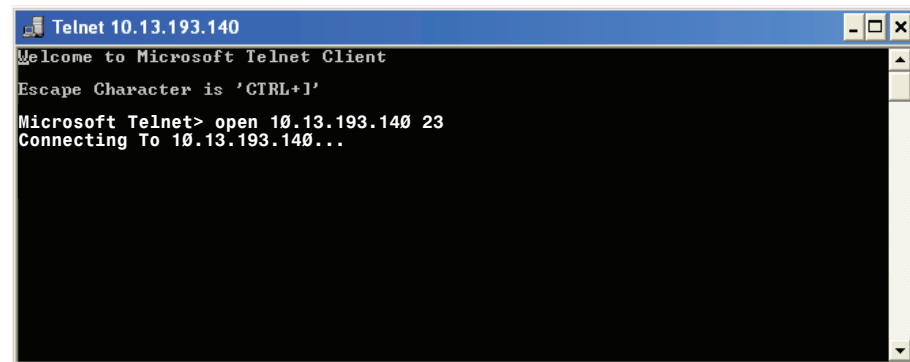

Figure 99. Telnet Open Command
3. The Telnet application appears. At the telnet prompt, type `open` followed by the IP address of the SME 100 and the port number (default port is 23). Then press <Enter>. See figure 99 for an example.